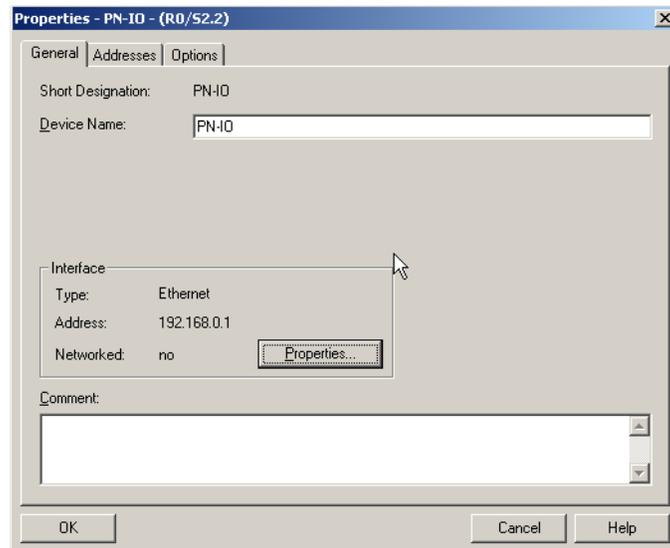

Figure 2.
2. Select SIMATIC 300 from the tree in the left -hand pane and then double click the Hardware symbol in the right-hand pane to access the HW Config screen (Figure 2).
3. Double click PN-IO to access the Ethernet port configuration, as shown in Figure. 2. Note the CPU rack number and slot position, here respectively 0 and 2, as they will be important later when setting up Crimson.